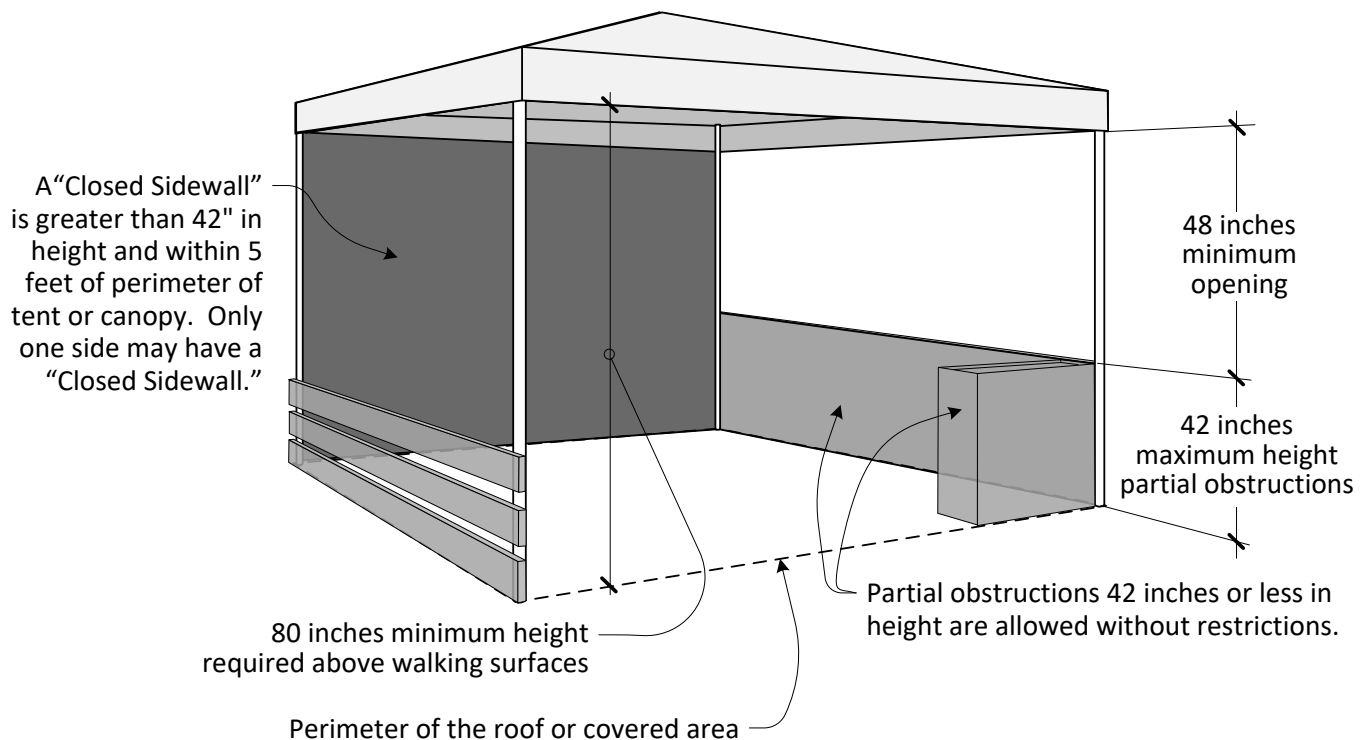

Figure 1
- ❑ Outdoor tents, canopies or membrane structures open to the public must have openings to allow airflow as provided in these guidelines. Only one full side of the roofed or covered area may have a "closed sidewall" (see Figure 1). The combined sidewall area (all 4 sides) shall not have less than 50% of clear unobstructed opening.